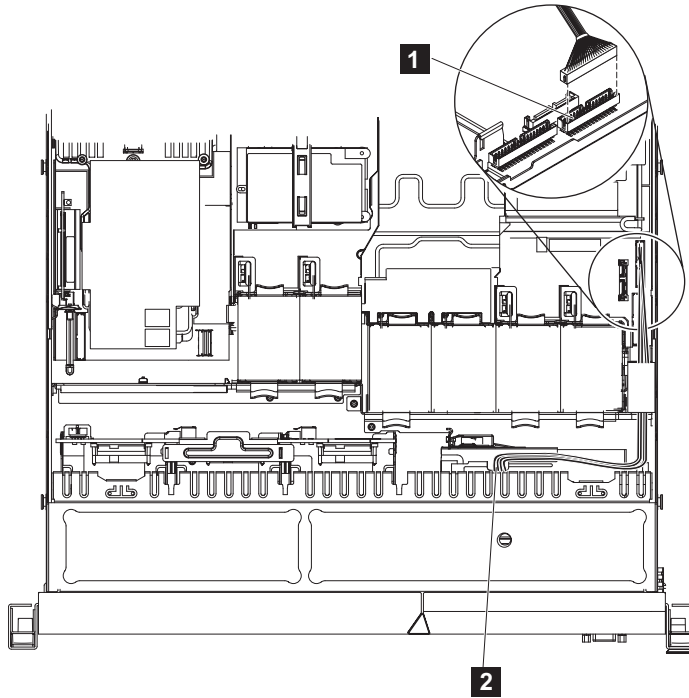

Figure 233. Connecting the SAN Volume Controller 2145-CG8 or 2145-CF8 operator-information panel cable
2. Thread the new cable from the operator-information panel to the connector above the Video/USB cable connector on the right side of the node, as shown in Figure 233 on page 249.
3. Connect the cable to the connector above the Video/USB cable connector on the right side of the node, as shown in Figure 233.